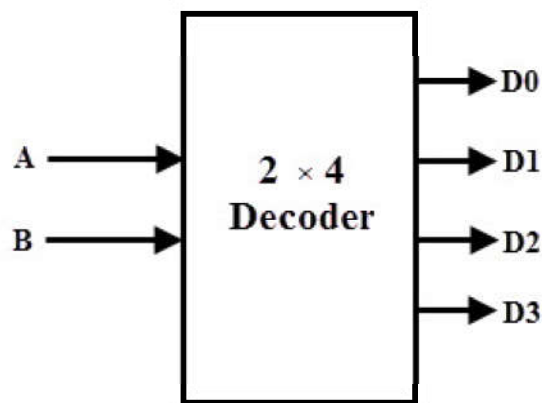
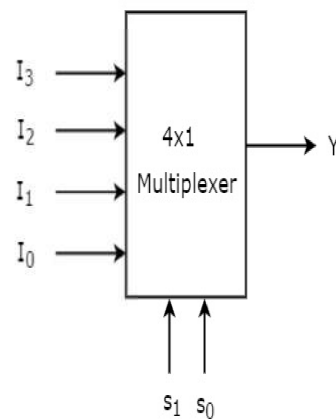

Figure 1: 2x4 decoder
Figure 2: 4x1 multiplexer
In Lab 2, we are going to look at decoders and multiplexers. Decoders are a type of combinational circuit that converts  $n$  lines of input into  $2^n$  lines of output. At any given time only one of the outputs can be high (1). Multiplexers are a type of combinational circuit which have  $2^n$  number of input lines with  $n$  number of select lines to select a single output. Figure 1 showcases a 2x4 decoder and Figure 2 showcases a 4x1 multiplexer.